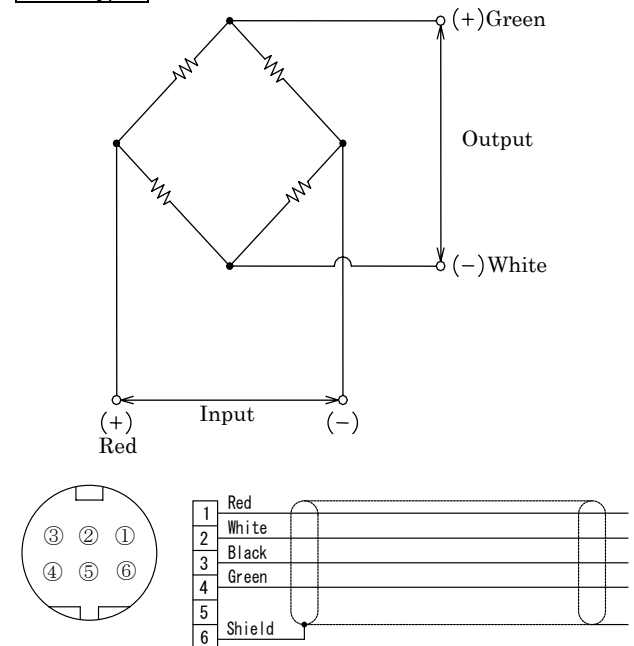

Fig. 5-1 Connection Diagram
- Wiring of the LUX-A cable is described in the following Figures 5-1 and 5-2.